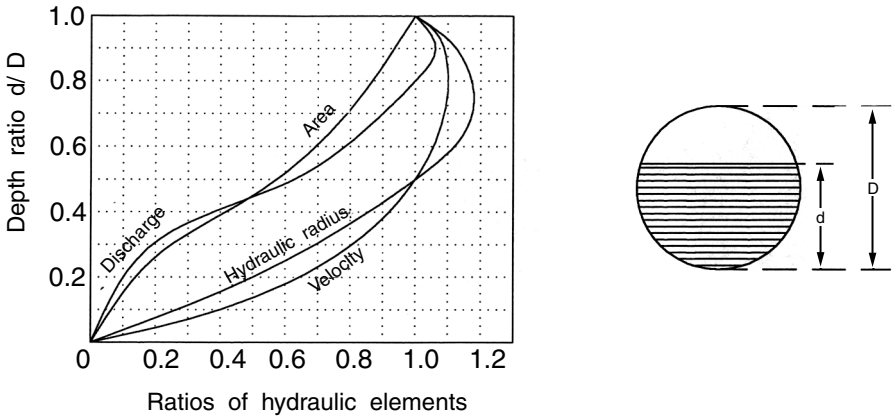

FIGURE H-1 Hydraulic elements graph.
**Hydraulic elements** The variables, parameters, or quantities included in such flow formulas as Manning's or Darcy–Weisbach's: depth, velocity, discharge, hydraulic radius, flow area, friction factor, mean hydraulic depth, wetted perimeter, etc. For circular conduits flowing partially filled, a **hydraulic elements graph** (also called **partial flow diagram**) shows how the ratios of the partial elements to full elements vary with the depth ratio. See Figure H-1. Note that a pipe flowing partially filled may carry a discharge larger than the full discharge; for example, at a depth ratio of 90%, the discharge ratio is approximately 106%.